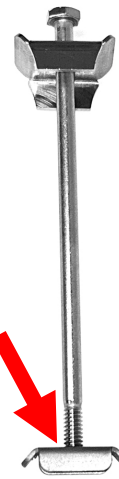

Figure 2
- Using the photo as a reference for orientation, screw the bottom guard assembly onto the bolt (see Figure 2). Use the 6" bolt for 6" HD Tubes. Use the 4" bolt for 4" Non-HD tubes Use the 5.5" bolt for 5" Non-HD Tubes.